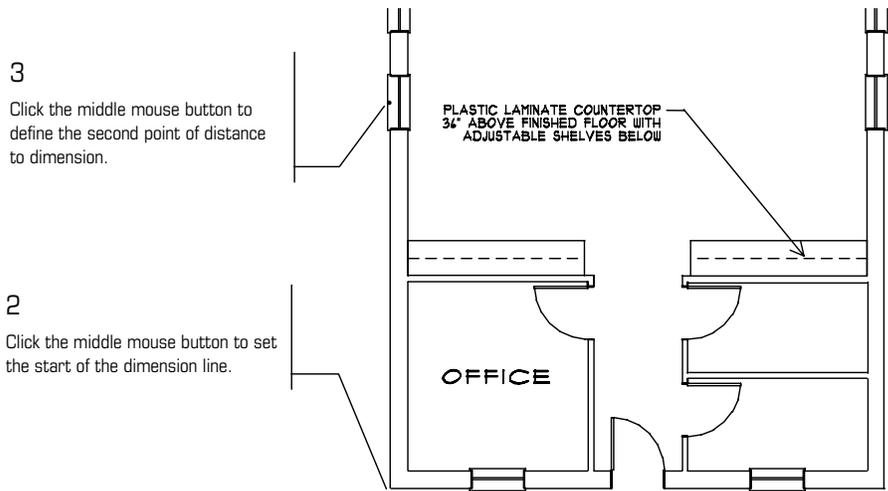

Figure 4.9: Placing the first dimension on the drawing
3. Move the cursor to the snap point of the window shown in Figure 4.9, and click the middle mouse button to snap to it. You are prompted with “Dimension which side of line?”